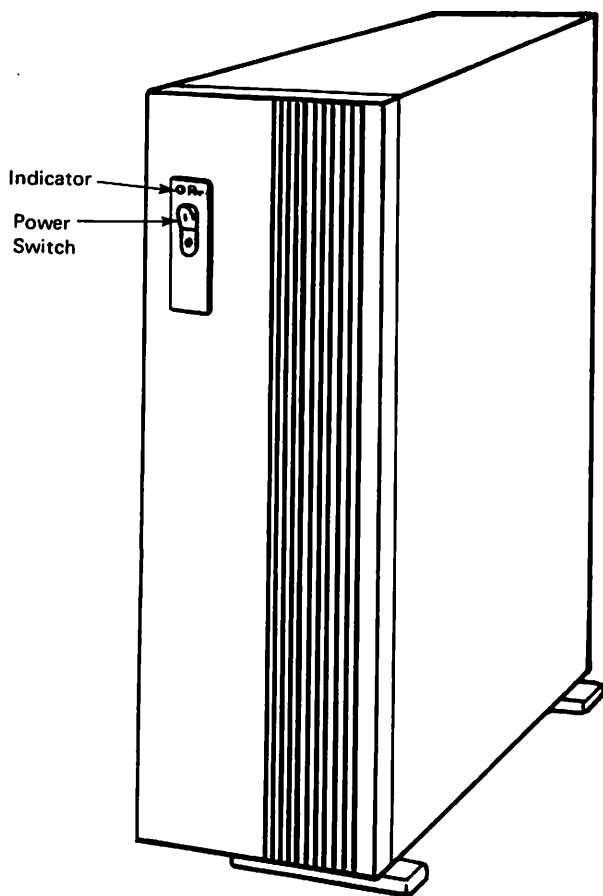

Figure 1 NCR 6098 subsystem
The only operator switches on the NCR 6098 Subsystem are the power switch and the AC Power Breaker. The power switch is located in the upper left corner of the front panel (see Figure 1). The ON and Off positions are marked by a 1 (ON) and a 0 (OFF). An indicator light above the power switch (marked Power) is lit when you turn on the subsystem. When the subsystem is turned on, the disk units start automatically and reach their operating speed in approximately 30 seconds. If the remote power-up capability is being used, the power switch should be left in the On position at all times. When the system Main Unit is turned on, the subsystem is also powered up. The remote power-up capability should be enabled when the subsystem is installed. To enable the remote power-up capability requires an NCR trained technician.